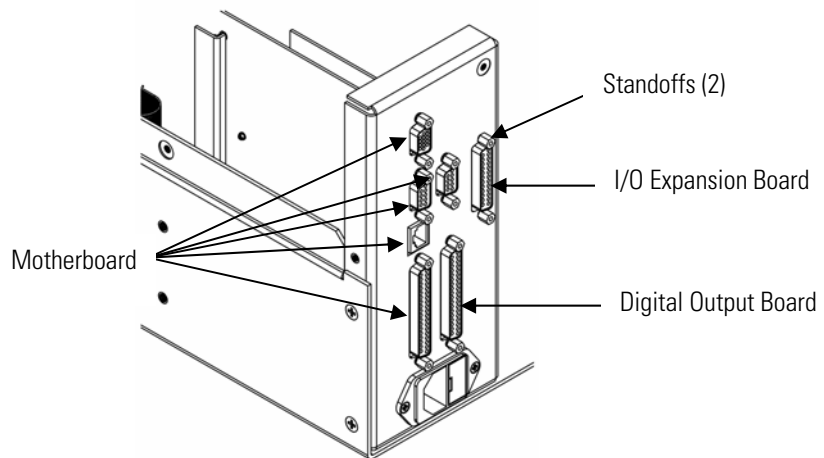

Figure 7-16. Rear Panel Board Connectors
3. Remove the two standoffs holding the I/O expansion board connector to the rear panel (Figure 7-16).
4. Using the nut driver, remove the two standoffs securing the board to the rear panel (Figure 7-16).